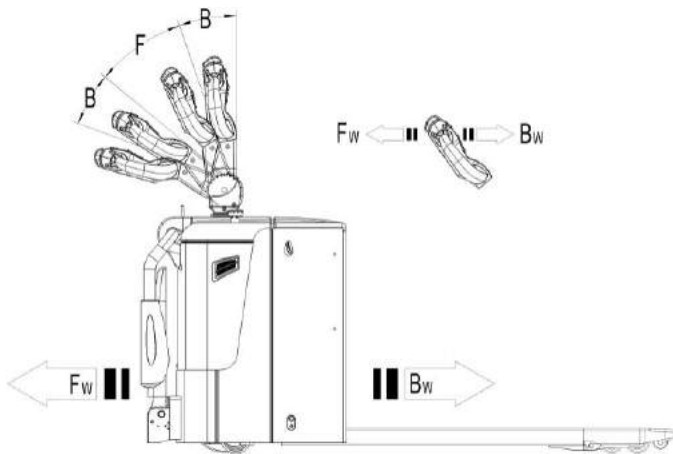

Fig. 9: Operating direction
After starting the truck by turning on the key switch (10), move the tiller to the operating zone ('F', fig.9).
Turn the accelerator button to the desired direction forward 'Fw.' or backwards Bw.'(fig. 9).